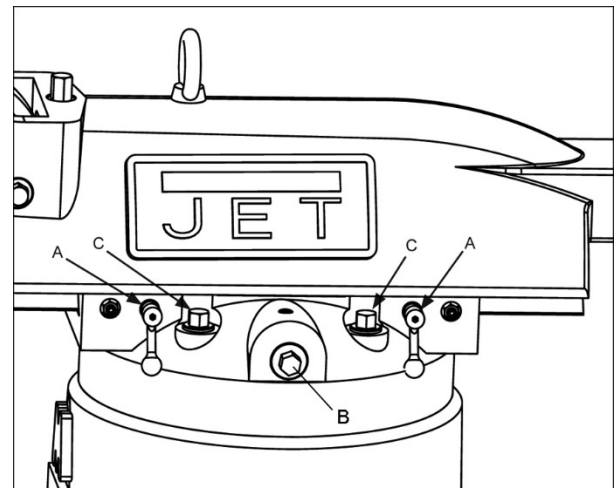

Figure 19 (JTM-949EVS/230 shown)
1. Loosen two handles (A, Figure 19) that lock the ram to its ways. [Hex nuts on JTM-1050EVS models.]
2. Turn ram pinion (B, Figure 19) with a wrench to slide ram on its ways.
3. When desired position is reached, tighten handles (A, Figure 19)[or hex nuts] securely.
1. Loosen four turret lock bolts (C, Figure 19) that clamp the ram to the top of the base. 1/2 turn should be sufficient to allow turret to move.
3. Tighten four turret lock bolts (C, Figure 19). Tighten in two steps using a calibrated torque wrench. Use a crossing pattern to tighten the nuts. Tighten initially to 25 foot-pounds, then tighten to a final torque of 50 foot-pounds.